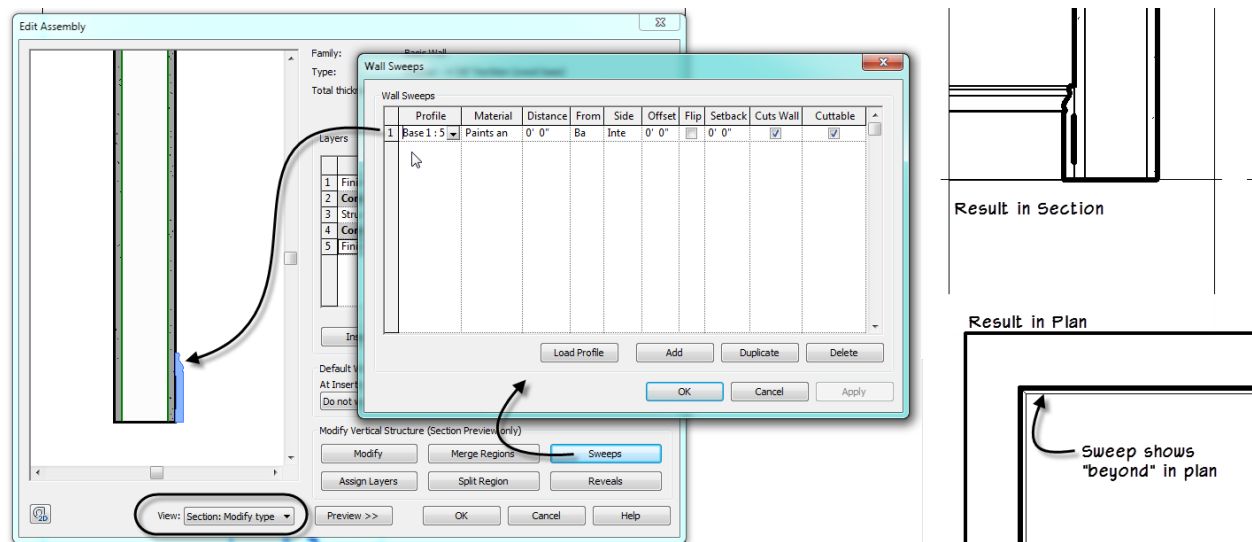

Figure 17
**Wall Sweeps (Integral)**—If you go with the Wall Sweep approach, select the wall, on the Properties palette, click the Edit Type button. In the “Type Properties” dialog, click the Edit button next to Structure. In the “Edit Assembly” dialog, click the Preview button at the bottom and change the preview to a Section view. (If you do not change to section, you cannot modify the vertical structure). Click the Sweeps button and then add a sweep (see the left side of Figure 17).